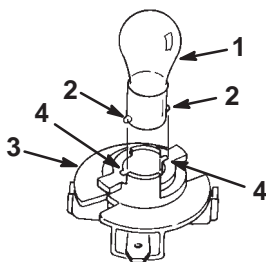

Figure 32
- Insert and rotate the bulb counterclockwise until it stops (approx. 1/4 turn), and remove the bulb from the bulb holder (Fig. 32).
- Insert the base into the holder (Fig. 32).